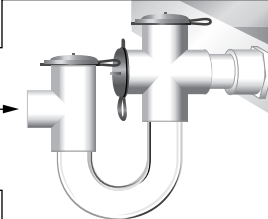

Figure 6
6. Check for correct operation by pouring water into top opening of Cross (**Figure 6**). Horizontal Red Cap must remain in place during testing.